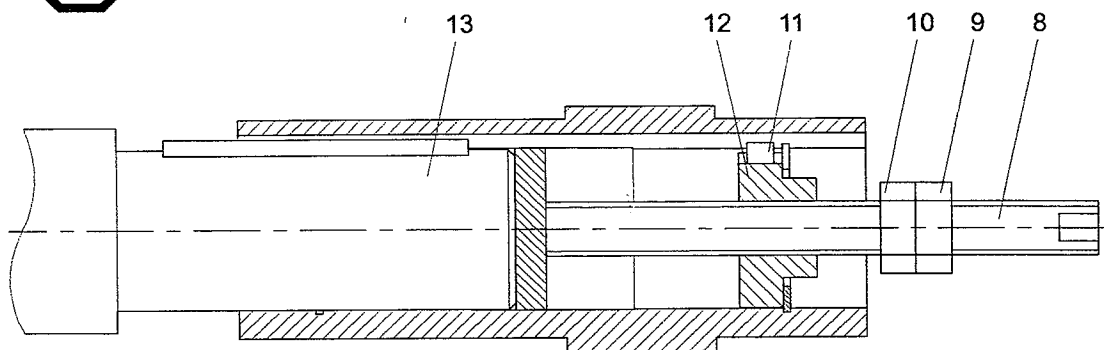

Figure 6.9.2: Remove hollow shaft and parallel key
- 3) When the rust solvent has sufficiently worked in, pull off the gear unit, using the device, see figure 6.9.2 "Remove hollow shaft and parallel key".